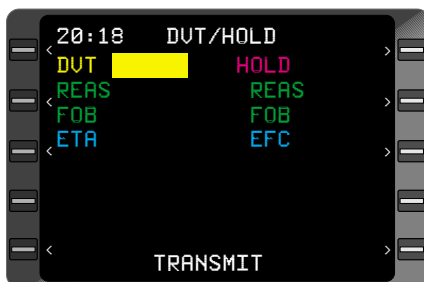

Figure 8-30
- ENTER** Key - DEPRESS. The **DVT/HOLD** Page is displayed. See Figure 8-30.